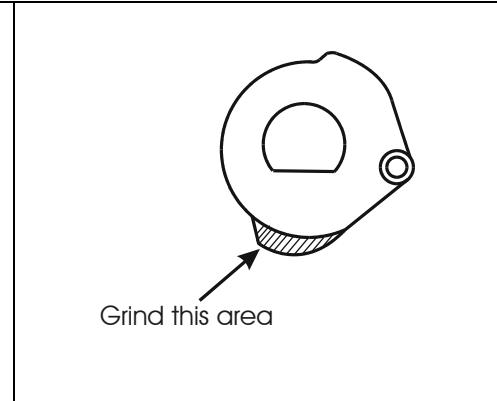
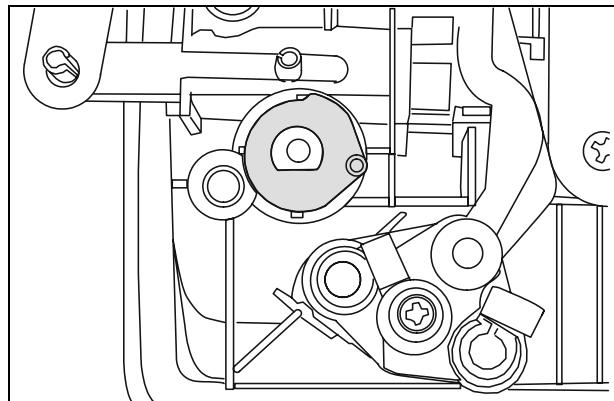

FIGURE 14
FIGURE 15
10. Grind the hatched area of the part represented on figure 14. This must be done to permit free rotation of the lever.
11. Place the part of figure 14 on the handle as shown on figure 15 (notice the flat side of the rotor facing down).